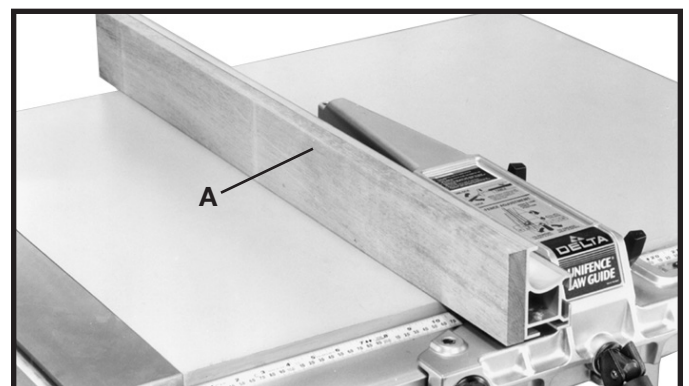

Fig. 63
CAUTION It is necessary when performing special operations such as when using the moulding cutterhead to add wood facing (A) Fig. 63, to one side of the rip fence as shown. The wood facing is attached to the fence with wood screws through holes you drill in the fence. A suitable stock size for most work is 3/4", although an occasional job may require one inch facing.